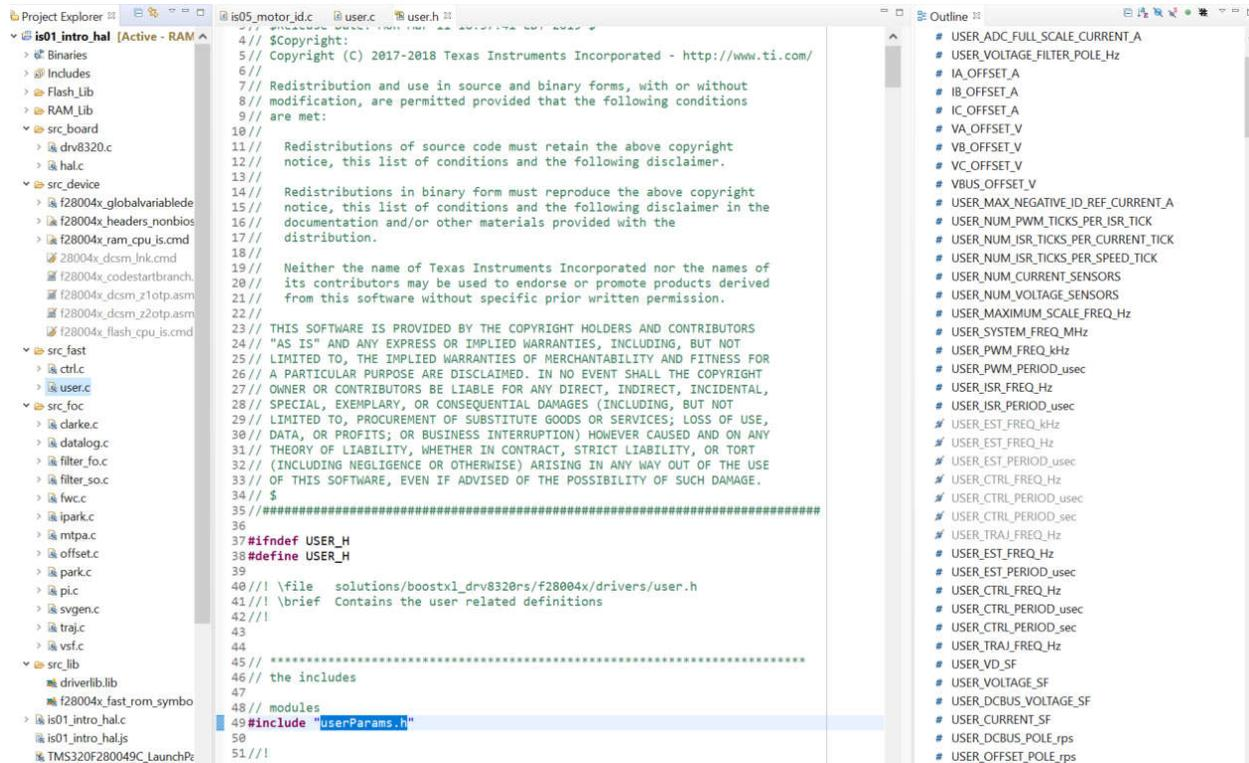

Figure 42: the content of “user.h” header file in Outline
8. Opening the “Outline View” will provide an outline of the “user.h” contents as shown in **Figure 42**.